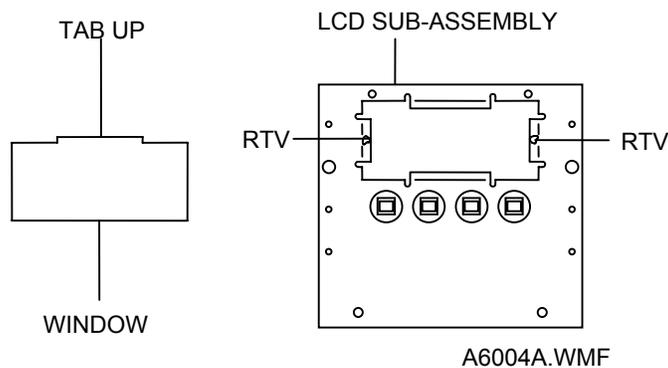

Figure 4-3. LCD Sub-Assembly
3. Place two small drops of RTV sealant on the LDP sub-assembly to hold the window in place while installing the panel. Refer to Figure 4-3.